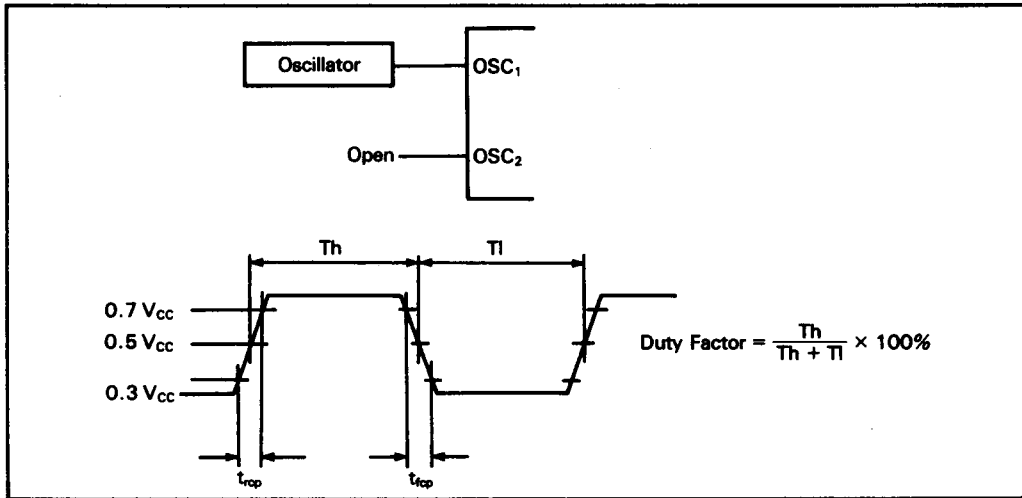

Figure 44 External Clock
- External clock operation as shown in figure 44.